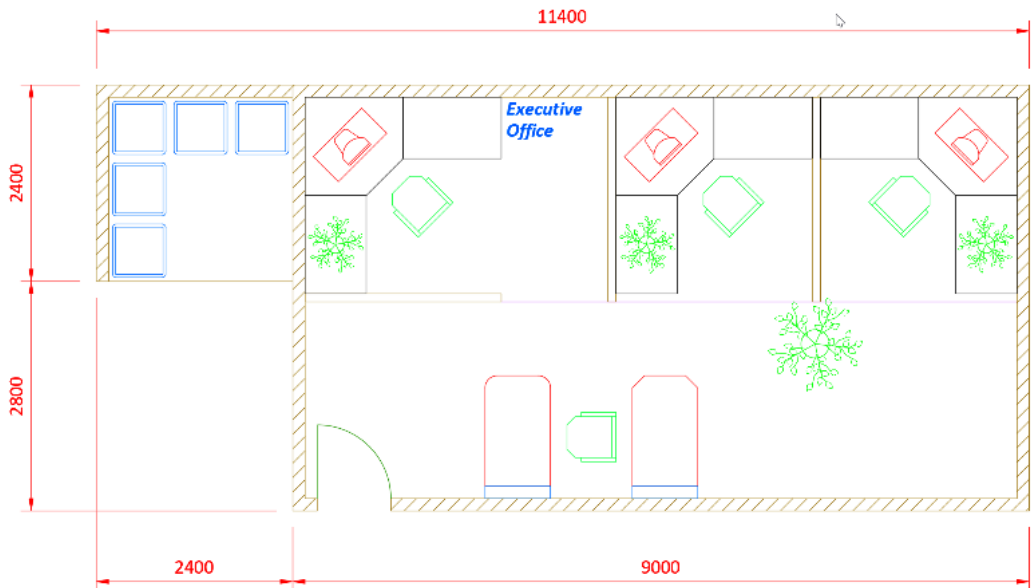

Figure 8.26: The floor plan with some more dimension annotation added
16. Using the **Linear** dimension type, place a few more horizontal and vertical dimensions to get used to the dimension placement workflow. You should end up with a floor plan that looks something like *Figure 8.26*: